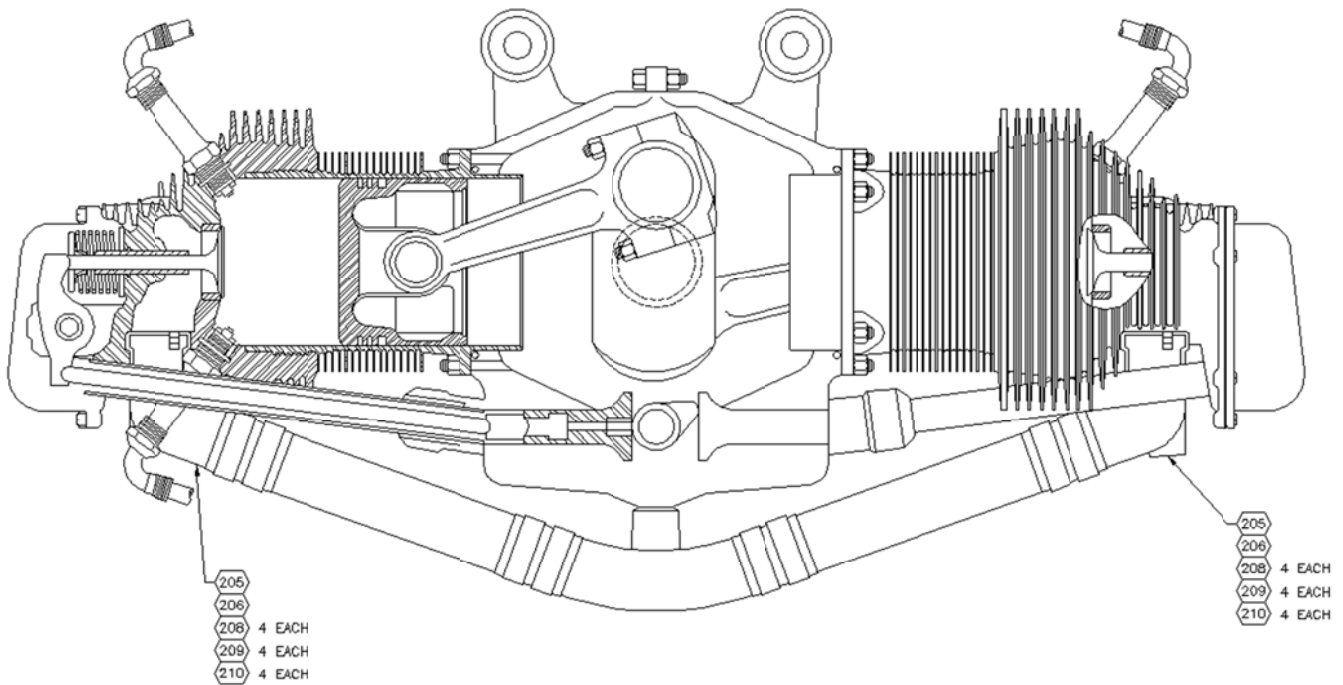

Figure 1
1. Remove items 101-106 and 108-110 specified in Figure 1 (page 4). Use the latest revision of Teledyne Continental Motors (TCM) Overhaul Manual X30008 for detailed information.
2. Install items 201, 205, and 206, using items 209-211 as specified in Figure 1. Use the latest revision of TCM Overhaul Manual, X30008 for detailed information. Also use the Supplemental Installation Table of Limits on page 2 and the Recommended Test Schedule on page 3 of this Service Letter.
- C. Re-install data plate using six (6) each of Drive screw item 211. If the existing hole is larger than a diameter of .083 inches, a larger drive screw may be required. If so, see specification MS21318 (not included in kit).